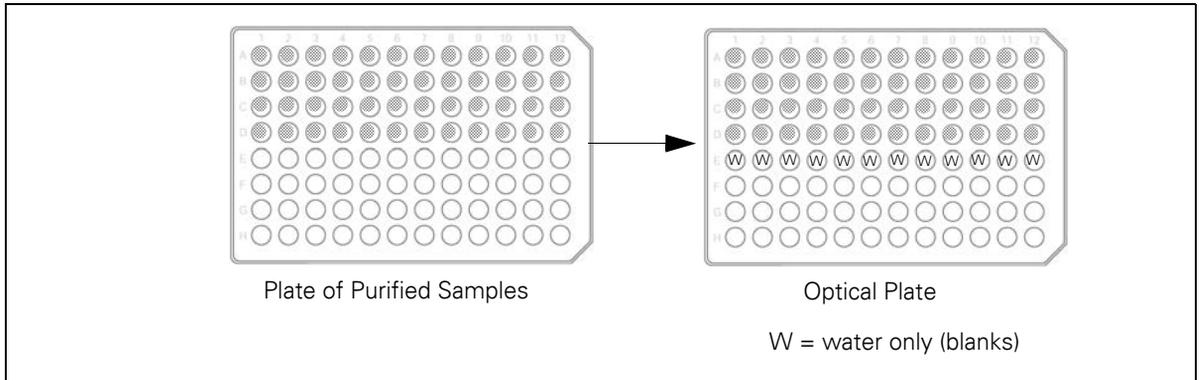

Figure 4.14 Loading the Optical Plate with Purified Sample and Water Blanks
- A. Transfer 2 μL of each purified PCR product from rows A through D of the purified sample plate to the corresponding rows and wells of the optical plate (see Figure 4.14 on page 103).